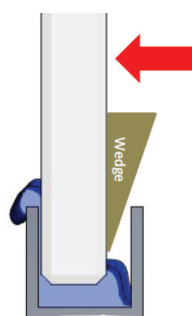

FIG 8.
- and use small wedges (**FIG 8**) or a flat plastering blade to slide glass panel back to inside edge of channel and against silicone.